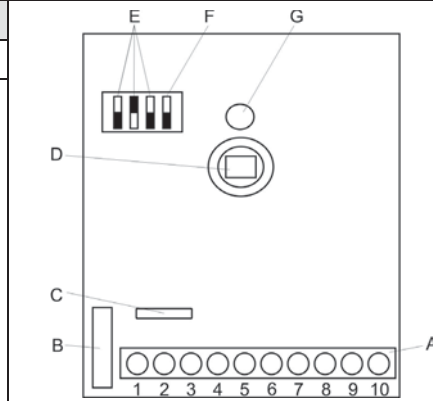

Fig. 3:
6. Attach the wires to the connection terminal (Fig. 3).